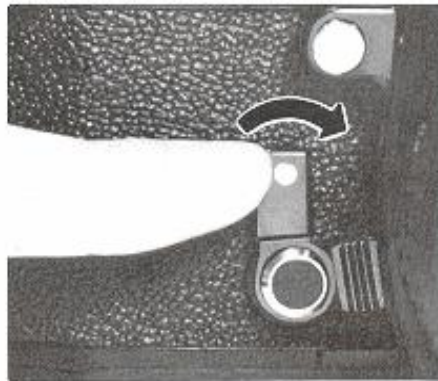

Fig. 37
- * To clear the self-timer setting, turn the lever back to its former position with your finger. **(Fig. 37)**
- * You can set Self-timer Lever (17) firstly and then advance Film Advance Lever (13).